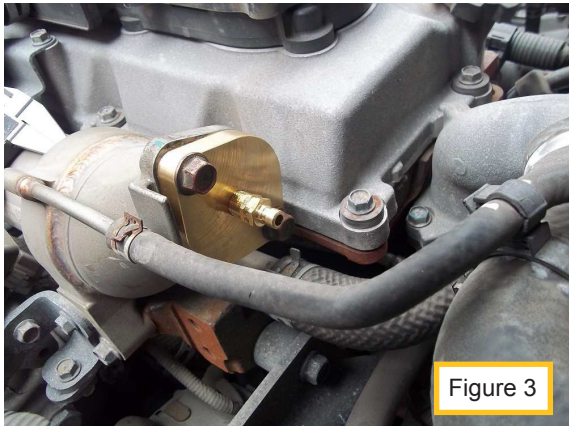
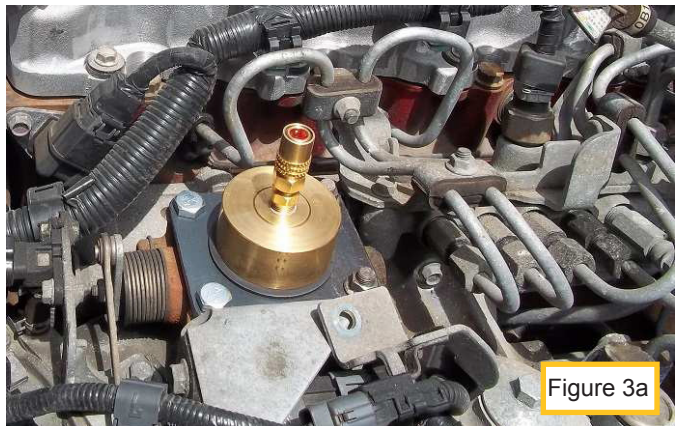

Figure 3
Figure 3a
5. Install EGR 069-3692 (intake) (see Figure 3) using existing bolts and 069-3627 (exhaust) adapter using the existing nuts and the two bolts 98821326 (see Figure 3a).